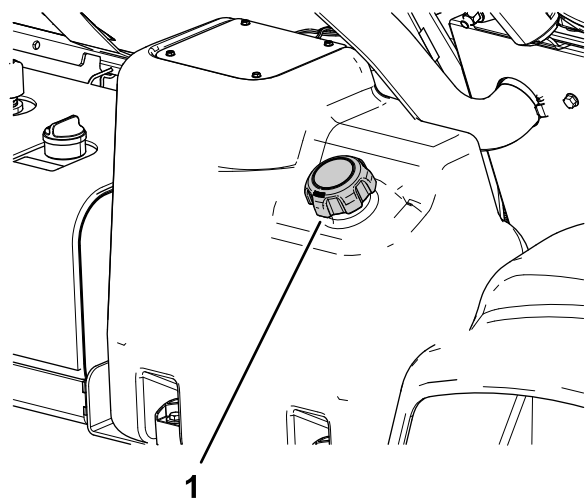

Figure 20
2. Clean the area around the fuel-tank cap (Figure 20).